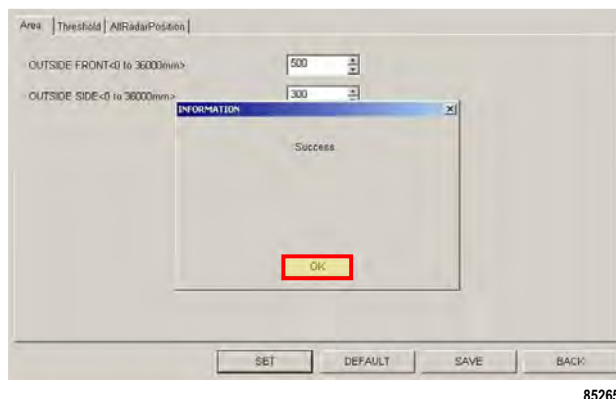

FIGURE 30-46. RADAR SCREEN
- b. When SET is successful, select OK when the "Success" window appears. See Figure 30-46.